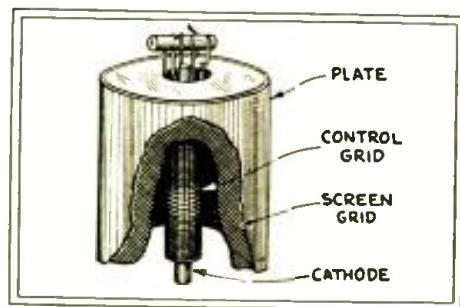

Fig. 2
The principle of the variable-mu tube is that its elements are not arranged symmetrically, as in previous tubes; for instance, at certain places, the voltage on the grid exercises less control on the flow of plate current than at others. In Fig. 2, let us say, the control grid is more open in the center than at either end. A voltage may be put upon it such that at either end no electron can pass through the mesh; and the two ends of the grid present an impassable barrier to plate-current flow. In the center, however, the mesh is more open, and a considerable number of electrons can pass. The tube, therefore, still operates with a greatly-reduced amplification factor.
Radio equipment of Uncle Sam's tanks is shown above: the tank in (1) is an old-timer, used for these experiments. Observe its flexible aerial. (2) Receiver and transmitter in position; (3) receiver alone with battery case below; the oblong end-pieces are buffers. (4) Chassis of the receiver which uses five UX-864 tubes; (5) transmitter removed from its case. (6) The assembly of Fig. 2 removed from its mountings. (Photos by Signal Corps; U.S.A.)